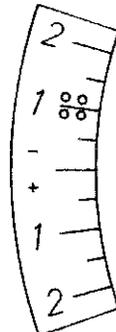

Fig. 2
3. Depress the key 3 of the synchro test unit. Briefly press the white button of the calibrating unit. The  $\circ\circ$  (four dots) mark must appear on the -1 (minus one) division of the scale. This corresponds to a delay of 11 milliseconds (see fig. 2).
If the readings do not correspond to figs. 2 and 3, readjustment is necessary.
With the 5 mm. dia. screw driver adjust the screw on the potentiometer marked No. 3 (top front, on the assembly panel mounted behind the front panel). Turn this screw to the left or right until, on pressing the white button of the calibrating unit, the ∴ (four dots) mark appears at the correct point of the scale as shown in fig. 2.